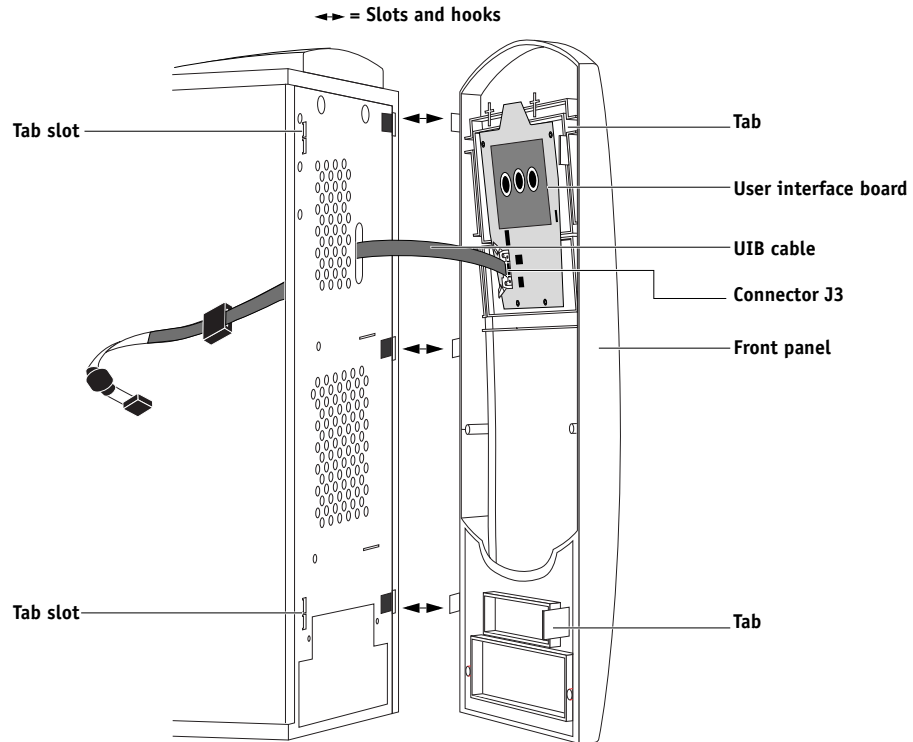

FIGURE 4-4 Removing the front panel
2. **Release the tabs that secure the front panel to the chassis by gently pressing them inward and pulling the front panel away from the chassis (see Figure 4-4 on page 4-7).**
3. **Angle the front panel so that the three hooks line up with the slots in the front of the chassis (see Figure 4-4).**